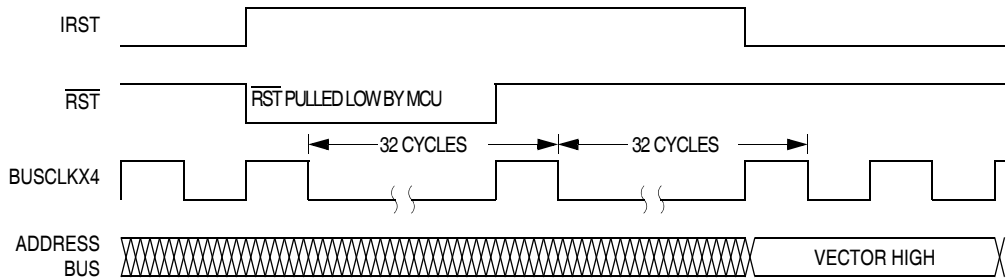
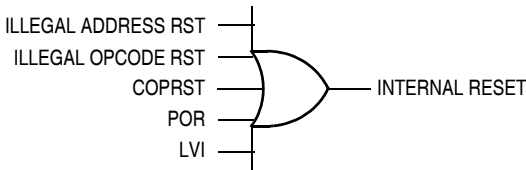

**Figure 14-4. Internal Reset Timing**
**Figure 14-5. Sources of Internal Reset**
*For POR and LVI resets, the SIM cycles through 4096 BUSCLKX4 cycles. The internal reset signal then follows the sequence from the falling edge of  $\overline{\text{RST}}$  shown in Figure 14-4.*
All internal reset sources actively pull the  $\overline{\text{RST}}$  pin low for 32 BUSCLKX4 cycles to allow resetting of external peripherals. The internal reset signal IRST continues to be asserted for an additional 32 cycles (see Figure 14-4). An internal reset can be caused by an illegal address, illegal opcode, COP time out, LVI, or POR (see Figure 14-5).